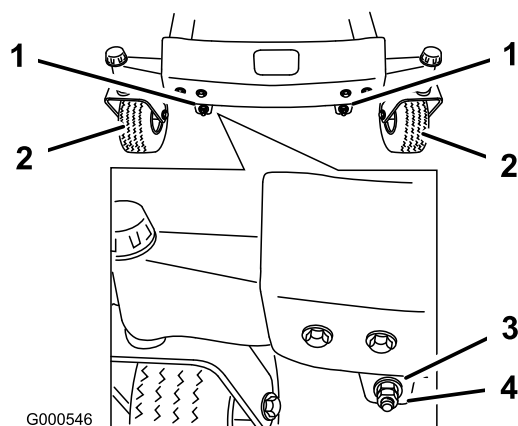
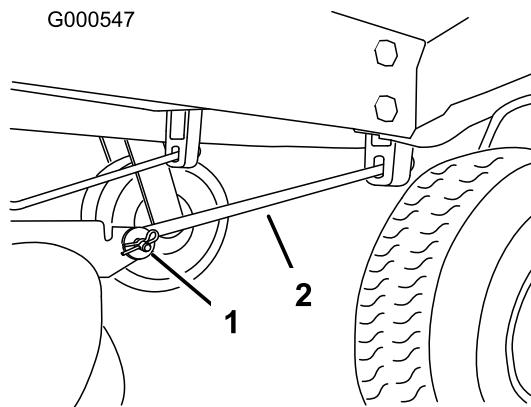

Figure 55
Figure 56
11. To adjust the front-to-rear blade slope, remove the locknuts and then rotate the adjustment nuts in the front of the mower (Figure 55).
13. After adjusting both adjustment nuts evenly, check the front-to-rear slope again. Continue adjusting the nuts until the front blade tip is 1/16-5/16 inch (1.6-7.9 mm) lower than the rear blade tip (Figure 55).
Note: After adjusting the adjustment nuts, make sure there is no slack in either support rod (Figure 56). Tighten either one to remove the slack (Figure 55).
4. Remove the hairpin cotter and clevis pin from the front support rod on each side of the mower (Figure 56).
8. Attach the front support rods to the machine with the clevis pins and hairpin cotters (Figure 56).